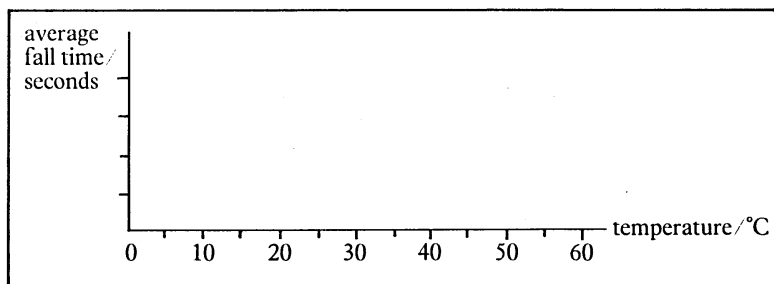

Figure 6
- I** Now plot a graph of average fall time (y-axis) against temperature (x-axis) (Figure 6). Draw a smooth curve through the points.